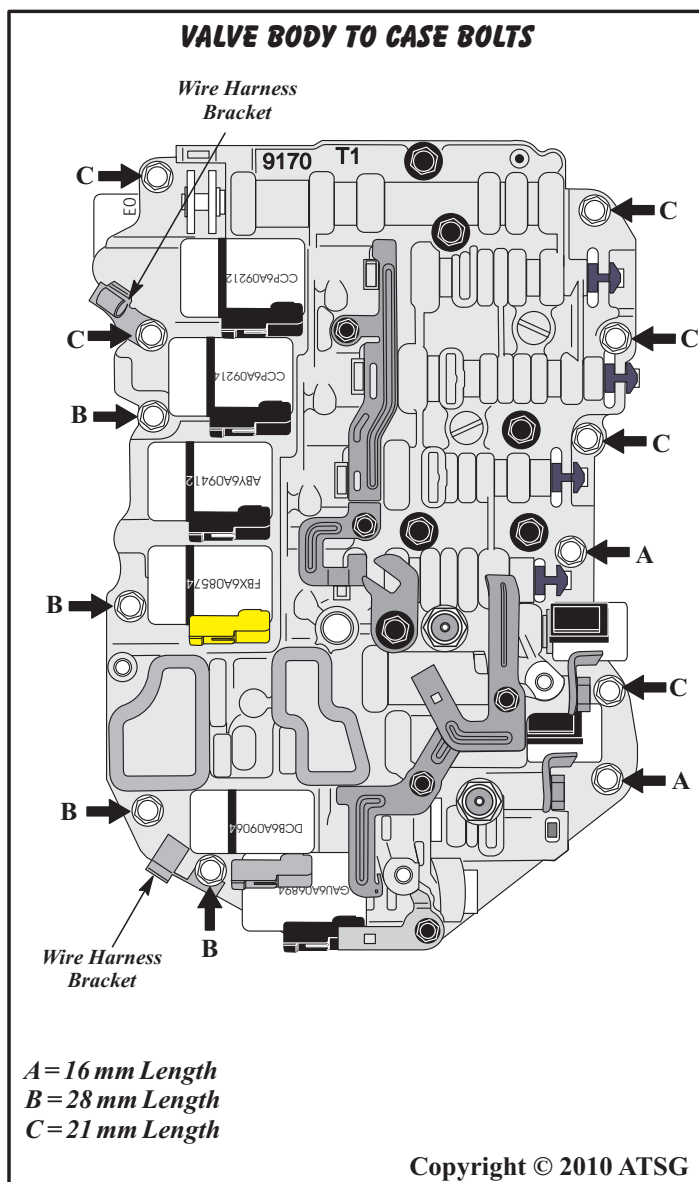

Figure 59
22. Remove only the 12 valve body to case bolts that are identified in Figure 59.